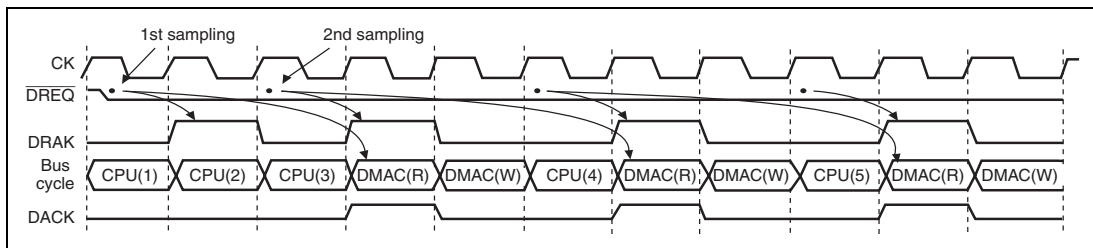
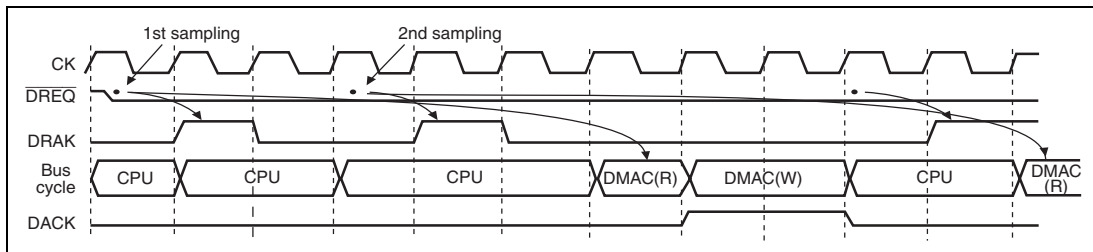

**Figure 10.14 Cycle Steal, Dual Address and Level Detection (Fastest Operation)**
**Figure 10.15 Cycle Steal, Dual Address and Level Detection (Normal Operation)**
For example, DMAC transfer begins (figure 10.14), at the earliest, three cycles from the first sampling timing. The second sampling begins at the start of the transfer one bus cycle prior to the start of the DMAC transfer initiated by the first sampling (i.e., from the start of the CPU(3) transfer). At this point, if  $\overline{\text{DREQ}}$  detection has not occurred, sampling is executed every cycle thereafter.
As in figure 10.15, whatever cycle the CPU transfer cycle is, the next sampling begins from the start of the transfer one bus cycle before the DMAC transfer begins.
Figure 10.14 shows an example of output during DACK read and figure 10.15 an example of output during DACK write.